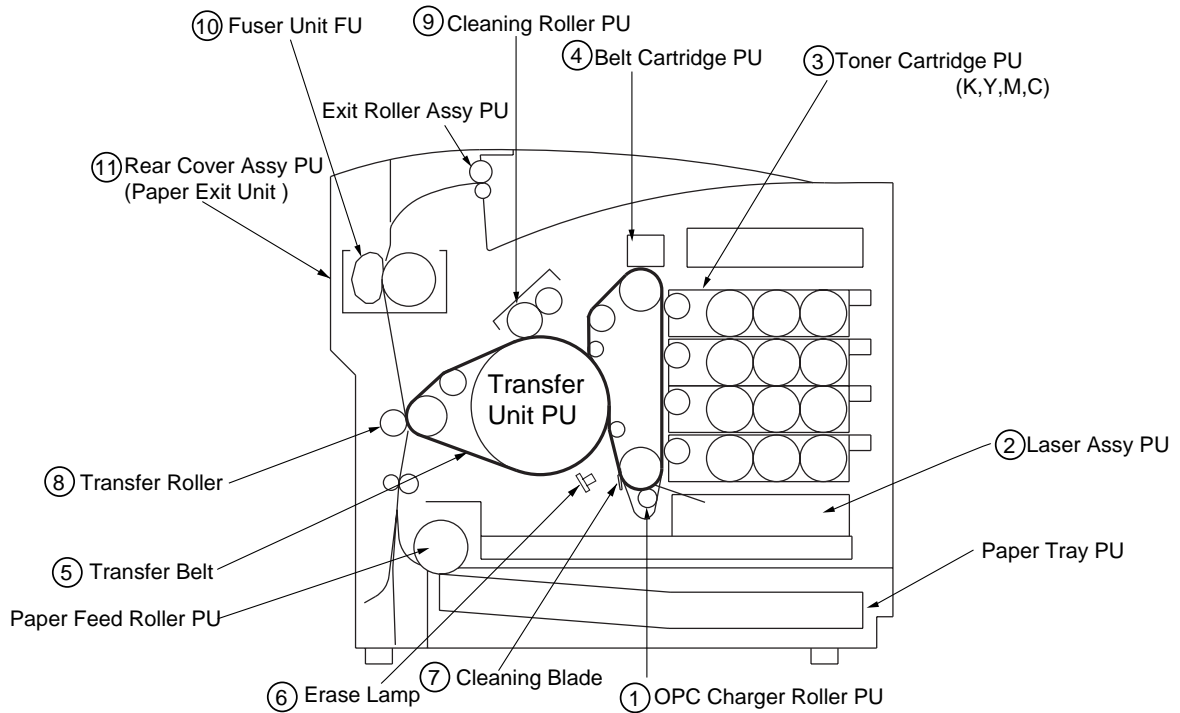
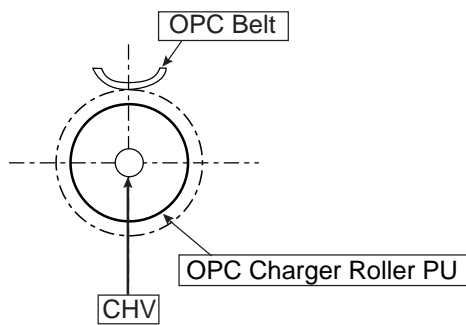

Fig.4-8
Fig.4-11
- (1) Structure of the Charger Unit (Refer to Fig.4-8 and Fig.4-11)
- i) OPC Charger roller PU is located as shown in Fig.4-8.
- (1) Structure of Laser Assy PU
- i) Laser Assy PU is located as shown in Fig.4-8.
- (1) Structure of Toner Cartridge PU (Refer to Fig.4-8 & 4.14.)
- i) Toner cartridge PU is located as shown in Fig.4-8.
- (2) Process of Developing (Refer to Fig.4-8, 4-14, 4-15, and 4-16)
- (1) Structure of the Transfer Belt (Refer to Fig.4-8.)
- i) First transfer part is located as shown in Fig.4-8.
- (1) Structure of Erase Lamp PU
- i) Erase lamp PU is located as shown in Fig.4-8.
Blade for the OPC belt cleaning is located to the belt cartridge as shown in Fig.4-8.